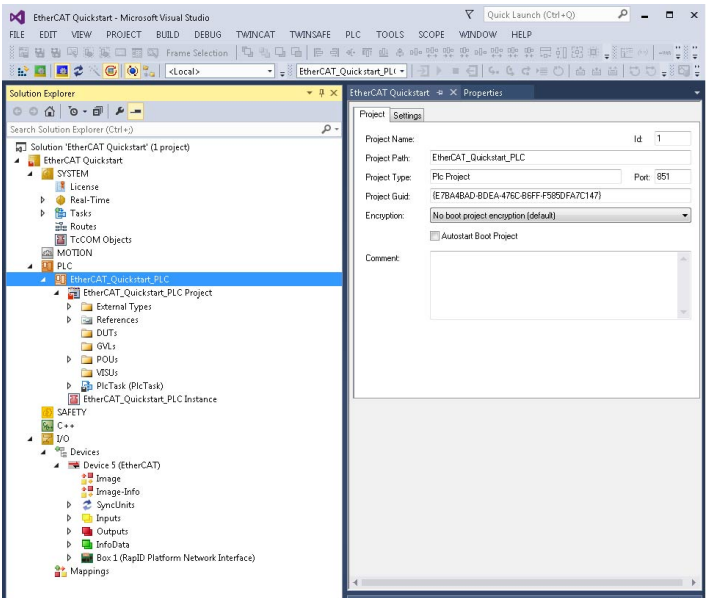

Figure 38. PLC Project Expanded View
3. Click **EtherCAT_Quickstart_PLC Project** for the **PLC Project Expanded View** to appear (see Figure 38).